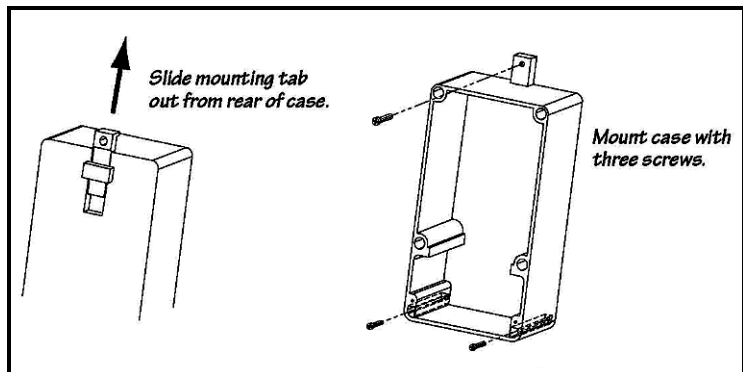

Figure 2-5: Mounting the Wall-Mount Enclosure
3. Mount the analyzer as shown in Figure 2-5 below.